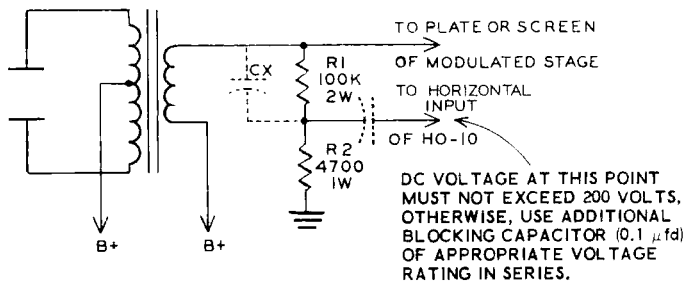

Figure 4A
4. It is necessary to obtain a sample of the transmitter audio signal where the audio modulates the RF. This point may be found at the plate or screen grid of the modulated tube. See Figure 4A. Add another 100 K Ω 2 watt resistor in series for each 350 volts over 750 volts. Capacitor CX (100 μ f to 200 μ f) may have to be added to compensate for audio phase shift. It should be a high voltage type, at least 2 KV for Figure 4A.